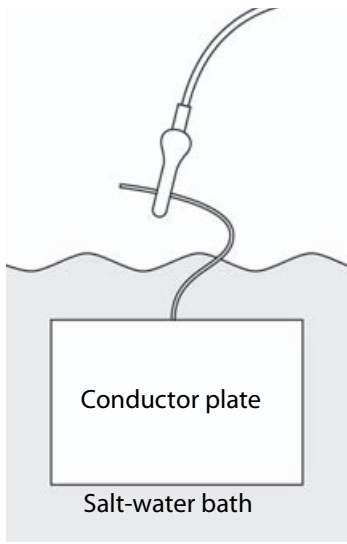

Figure 16 Conductor plate attachment
- a Connect the black lead to the conductor plate in the salt-water bath as shown in Figure 16.